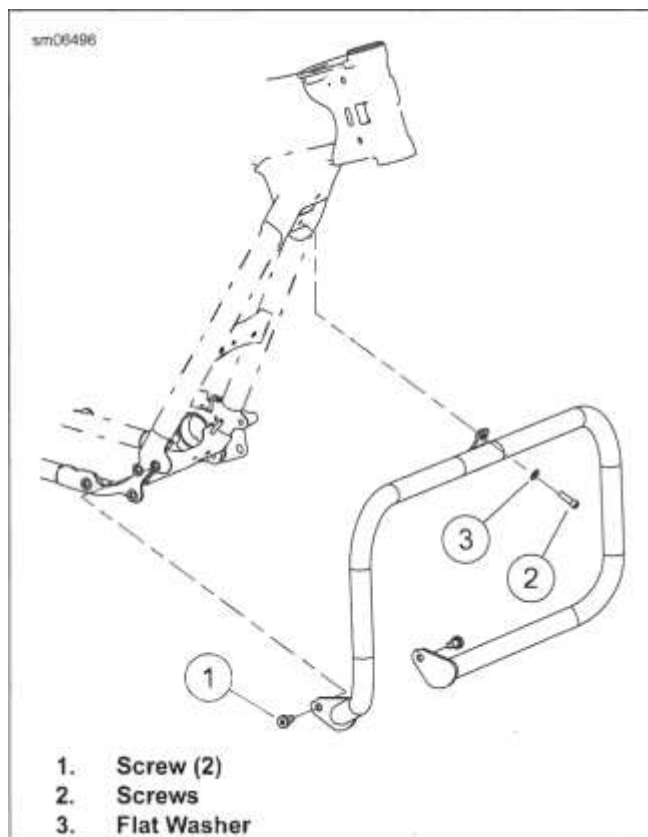

Figure 3-133. Engine Guard
1. See Figure 3-133. Remove two screws (1) to release ends of engine guard from frame weldments.
2. Remove screws (2) and flat washer (3) and remove engine guard.
1. See Figure 3-133. Insert tab at top of engine guard into slot at base of steering head. Start screw (2) with flat washer (3).
2. Secure lower ends of engine guard to frame weldments with screws (1). Tighten.